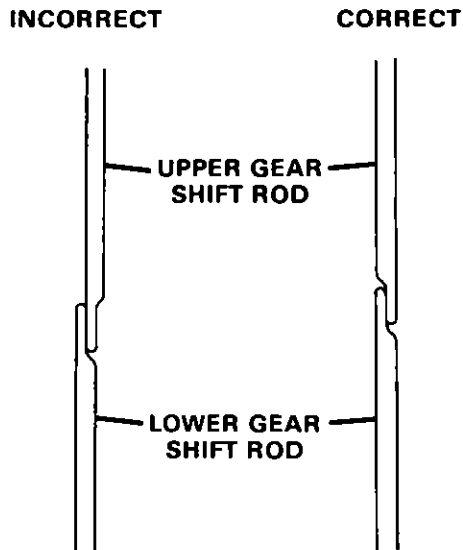

Figure 6. Proper Assembly of Gear Shift Rods.
- D Position gear housing so that gear shift rods are lined up as in Figure 6